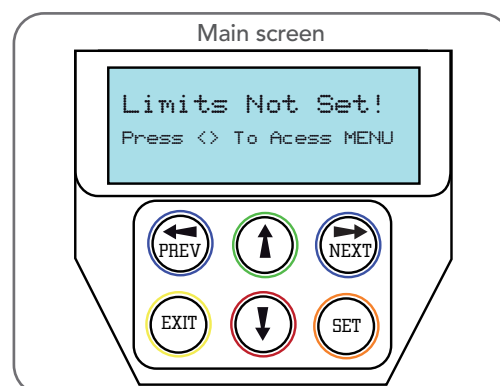

Fig 7.3
- If this is the first time the DCB-05V2 has been used, the MAIN SCREEN should indicate that the limits are not set (**Fig. 7.3**). If the display shows that some input is active then rectify the situation before proceeding. If a default setting is to be changed it should be done now before setting the travel limits.